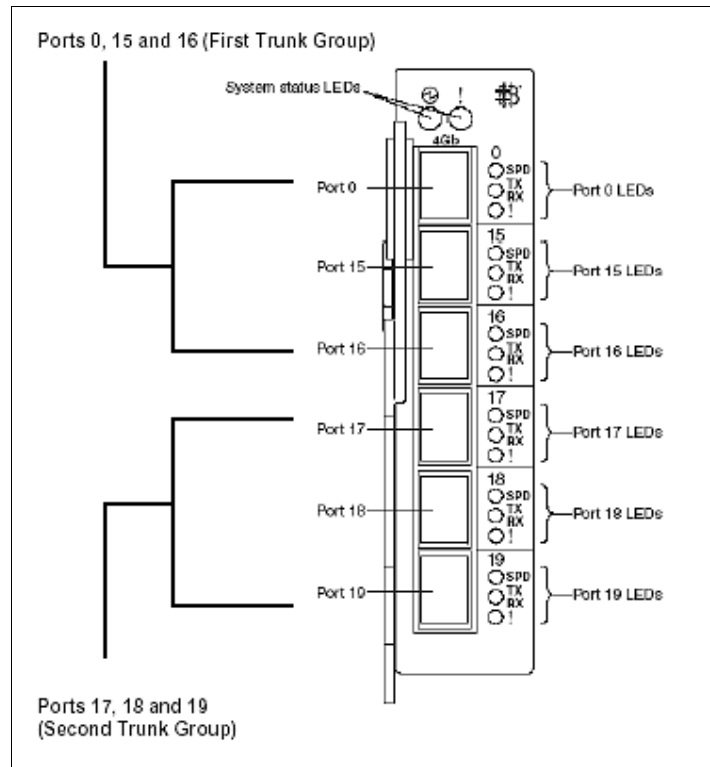
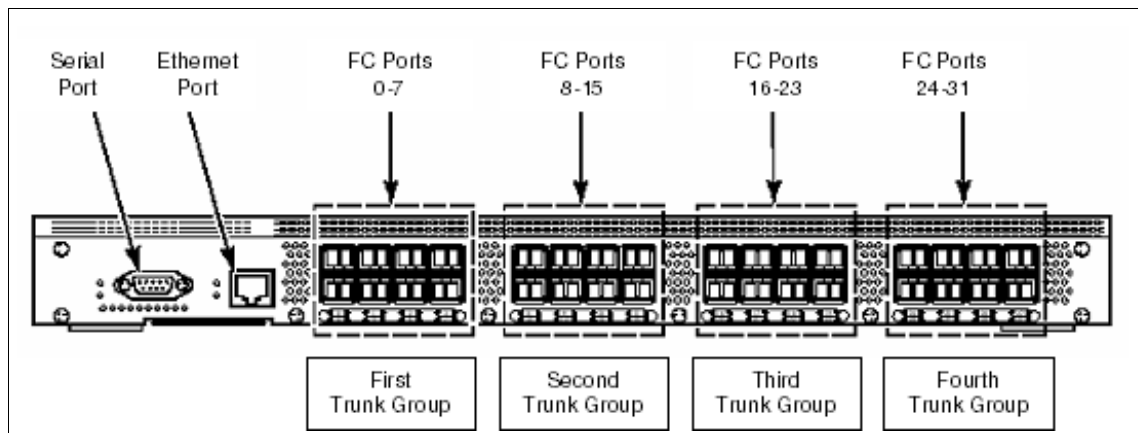

Figure 5-45 ISL Trunk Groups for 4Gb SAN Switch Module
Figure 5-46 SL Trunk Groups for SAN32B
- ▶ Trunk ports must reside in the same port group (see Figure 5-45 on page 104 and Figure 5-46 on page 104).
The diagrams in Figure 5-45 and Figure 5-46 shows the possible Trunk Groups on the Brocade 4Gb SAN Switch Module and the SAN32B.